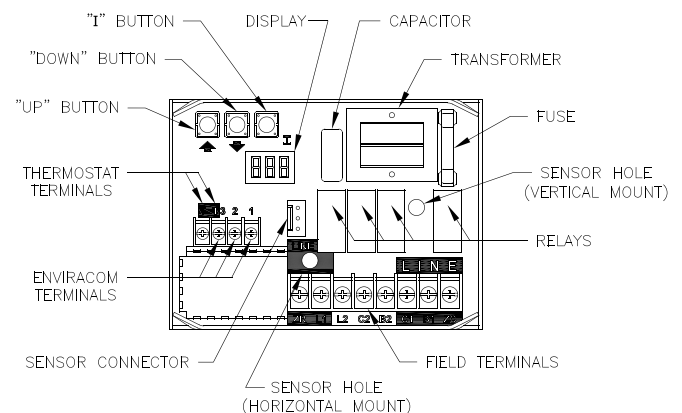

Figure 5: Intelligent Oil Boiler Control
- b. The boiler's sequence of operation is shown as Status Codes on Boiler Control display. See Table 4 and Figure 5.
- d. If the thermostat is not satisfied and the Operating Setpoint (SP) is reached the system circulator will continue to operate and the burner will stop. When the boiler water temperature drops below the setpoint less the differential setting the burner will restart.
- f. When an indirect water heater aquastat call for heat is wired to the "ZR" terminal the Boiler Control starts a domestic hot water circulator connected to the "ZC" terminal and when the boiler temperature is less than Operating Setpoint (SP), the boiler control energizes the oil primary to turn on the burner without circulator pre-purge delay.
- g. On burner start, if the CAD cell does not see flame within approximately 15 seconds, primary control will shut down the burner and enter into a lockout mode. A lockout is reset by pressing the reset button located on the primary control. If the flame is lost while the burner is firing, the primary control shuts down the burner, enters a 60 second recycle delay, and repeats the ignition sequence. If after three (3) trials for ignition, flame is not detected, primary control will enter into restricted mode. Restricted mode is reset by holding down the reset button for 15 seconds.